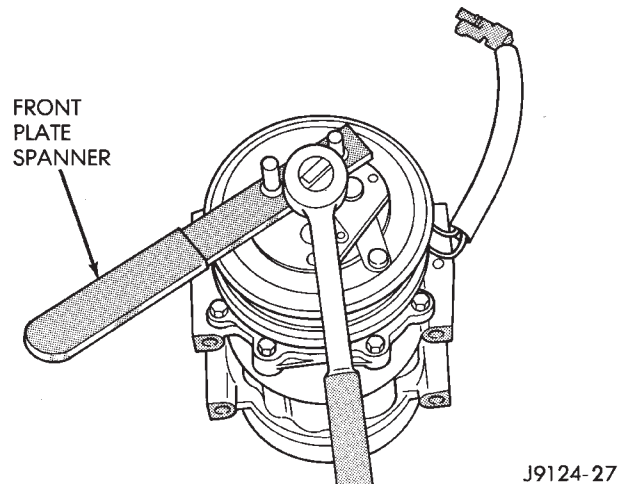

Fig. 3 Hex Nut Removal
- (1) Insert the 2 pins of the front plate spanner into any 2 threaded holes of the clutch front plate (Fig. 3). Hold clutch plate stationary. Remove hex nut with 19 mm (3/4 inch) socket (Fig. 3).